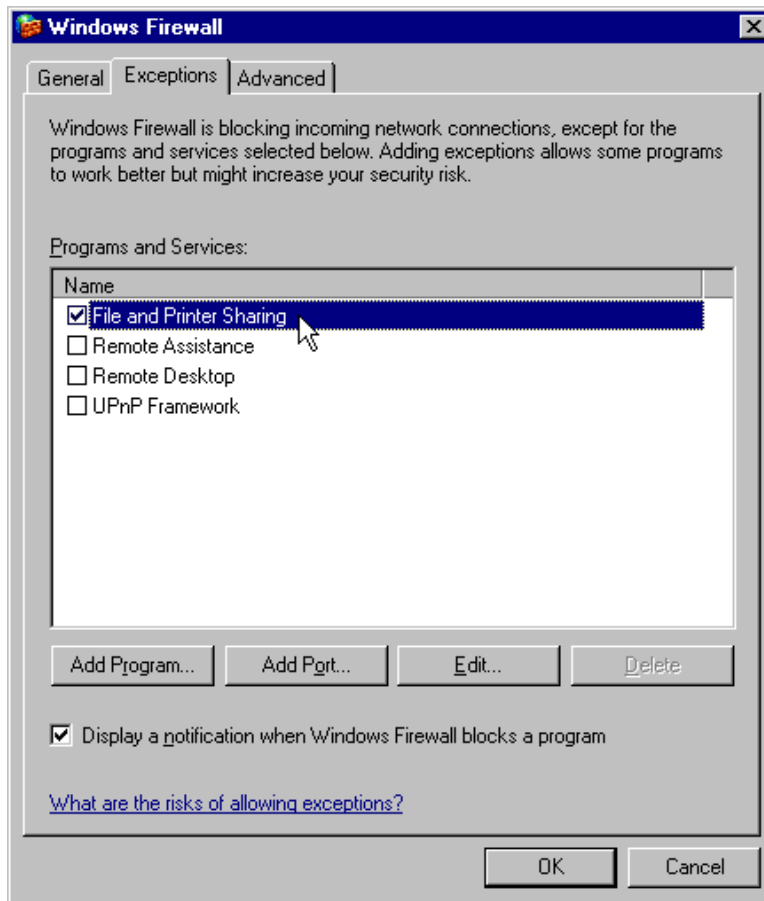

Fig. 8. Turn on File and Printer Sharing.
2. Go to the Exceptions tab, then click to mark the **File and Printer Sharing** checkbox (Fig. 8).